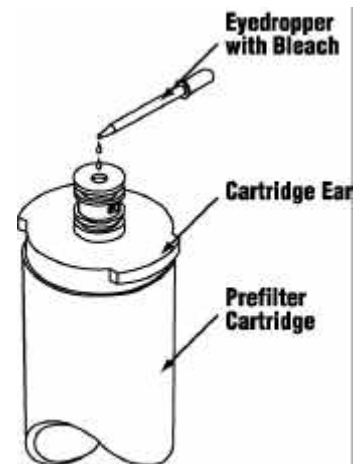

Fig. 9
- 3) Before installing the new cartridge, use an eyedropper to inject one teaspoonful (approximately 5 ml) of household bleach into the center opening of the filter cartridge. The prefilter is located just before the RO membrane cartridge. (See Fig. 9)